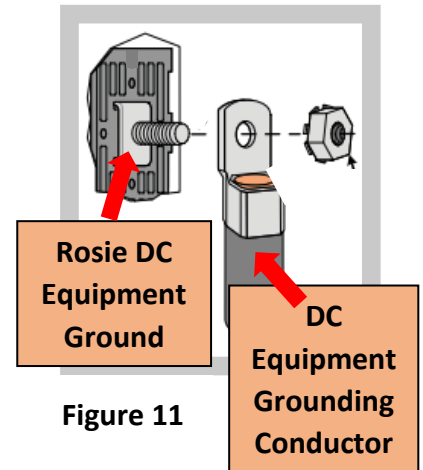

Figure 11
- The DC Equipment Ground terminal on the Rosie accommodates up to **#1/0 AWG** cable. For a marine application, remove the terminal and secure the larger gauge cable directly to the Rosie chassis with a suitable bolt and nut, refer to **Figure 11**.